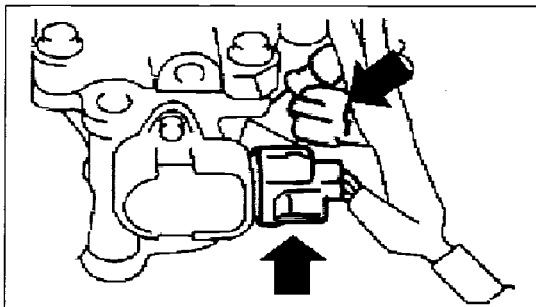

Fig.4: LH Side Injector Surrounding Area
- a) Disconnect #2 Injector Connector on all models. (see Fig. 4)
- b) Disconnect TGV Position Sensor Connector on all models. (see Fig. 4)